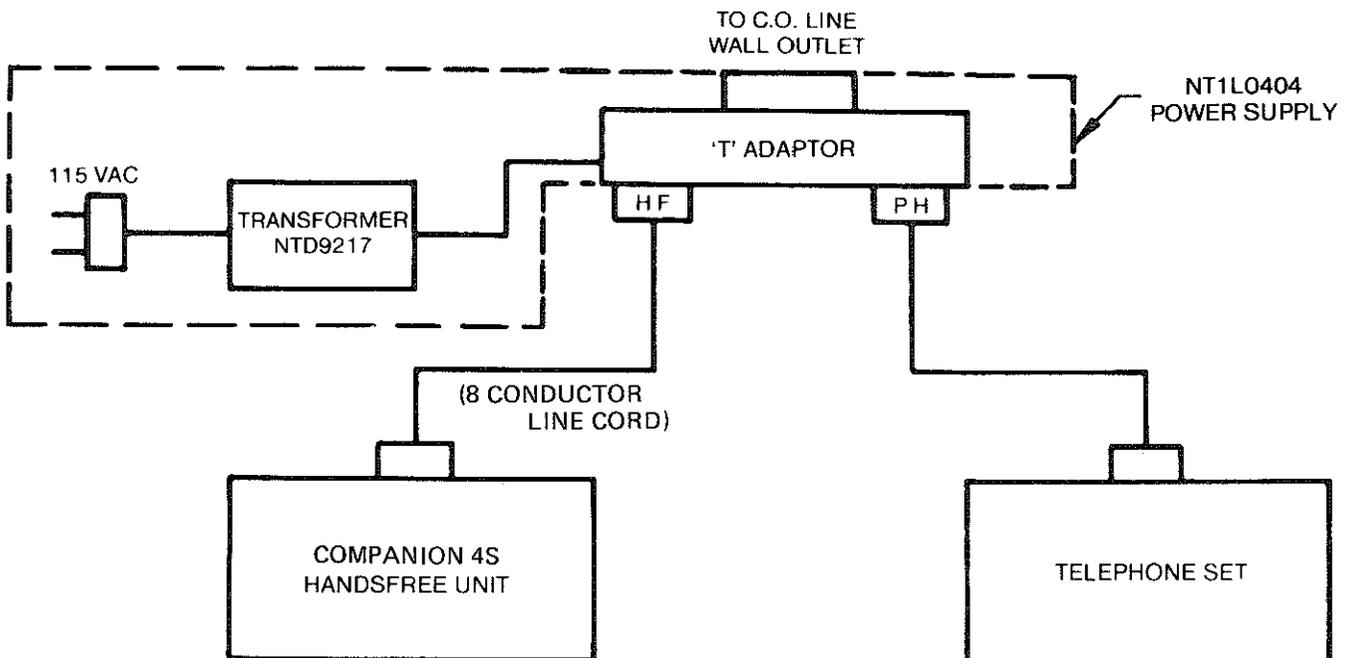

Fig. 1 — NT1L06AA Handsfree Unit - Connections
- 4.02 Insert the modular plug, on the other end of the line cord, into the power supply 'T' adaptor jack labelled HF (handsfree). Ensure that the plug is properly seated (audible click) and installed in the correct jack. Refer to connection information block diagram, Fig. 1, for details.